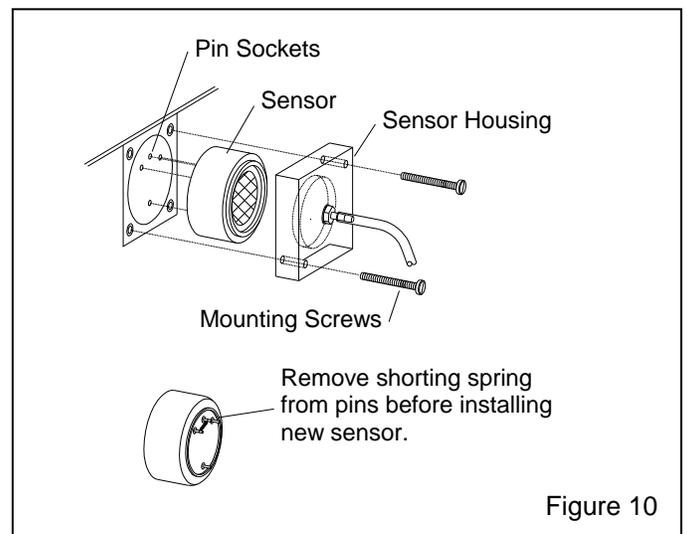

Figure 10
7.1.5 Locate the clear-plastic sensor housing, shown in Figure 10, and remove the mounting screws. The screws are easily removed **Do not press hard against the screw heads; excessive pressure could damage the circuit board.**
7.1.9 Handle the new sensor with care. Remove the shorting spring from the pins, as shown in Figure 10, and then plug the sensor into the sockets.